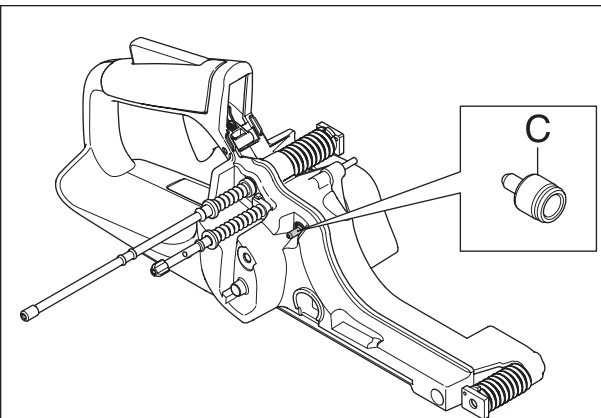

Fig 47
The two-way valve (C) has the following properties (see figure 47):